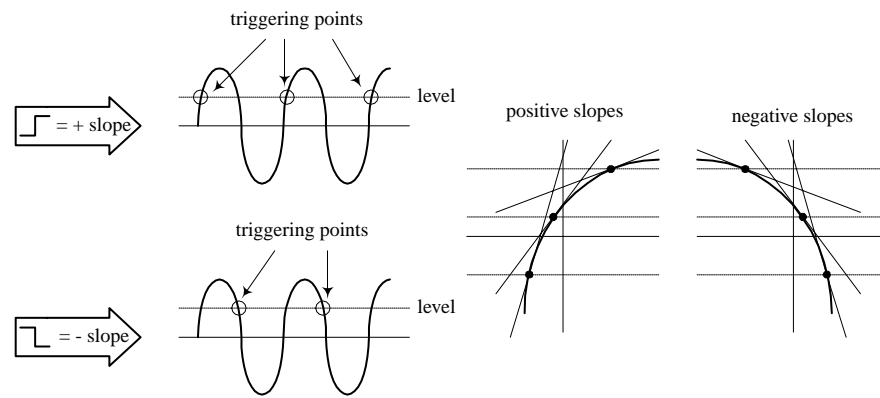

FIGURE 14.30
- **SLOPE button.** Selects the point at which a scope will trigger. When positive slope is selected, the scope will only begin a sweep when the signal voltage crosses the LEVEL voltage during a positive sloping rise. (LEVEL voltage is explained a few lines down.) A negative slope setting initiates a sweep to occur when the signal crosses the LEVEL voltage during a negative sloping fall (see Fig. 14.30).